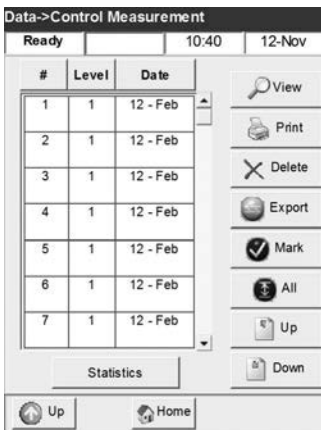
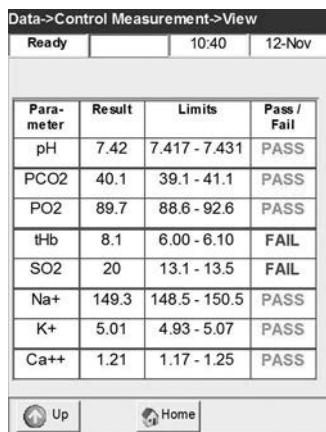

Fig. 4-30 Controls Measurement
Fig. 4-31 View Control Results
3. In the **<Data - Control Measurement>** screen (Fig. 4-30), press the **View** button to display the Control results (Fig. 4-31). Use the **Up** and **Down** buttons to display the previous or next page of results.
4. To print individual results, highlight the desired measurement (Fig. 4-30). To print groups of results, highlight the first measurement to be printed, press **Mark**, then select the last measurement to be printed. All the measurements in between will be selected. Press **All** to select all results.